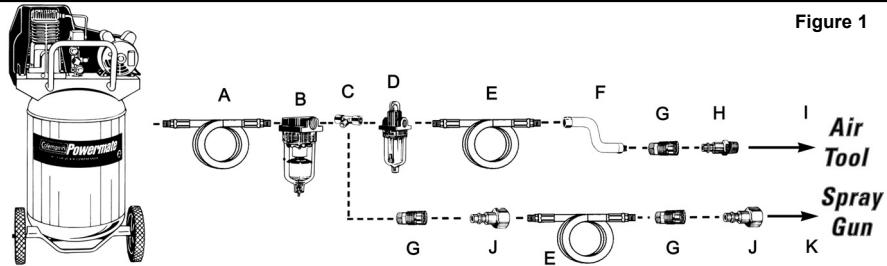
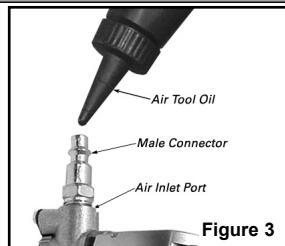

Figure 1
Figure 3
7. Connect the tool to the air hose quick coupler. **NOTE: It is recommended that a whip hose with a swivel (P012-0079SP - not included) be used to prevent twisting, kinking and excessive wear to the air hose (ref. item "F" in figure 1 for recommended connections).**
To maintain the maximum performance of the air tool, it must be lubricated each time it is used. Dust, dirt, rust and oil residue will build up inside the tool and reduce the performance. An in-line oiler is recommended for proper automatic tool lubrication (see Figure 1). If an in-line oiler is not available, the tool can be lubricated manually through the inlet port (see Figure 3).